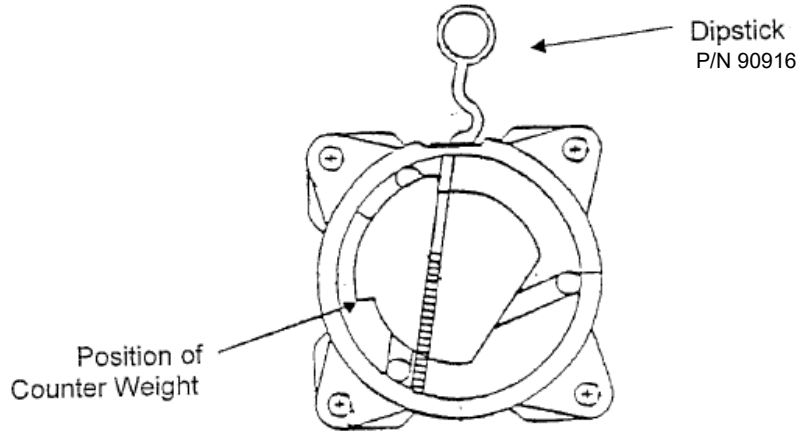

Figure 5: Compressor Counter Weight and Dipstick
- d. Using a socket wrench, turn the compressor pulley retaining nut clockwise until the counterweight on the face of the compressor is positioned as shown in Figure 5 below.
- e. Insert the oil dipstick up to the stop as shown in Figure 5 below.